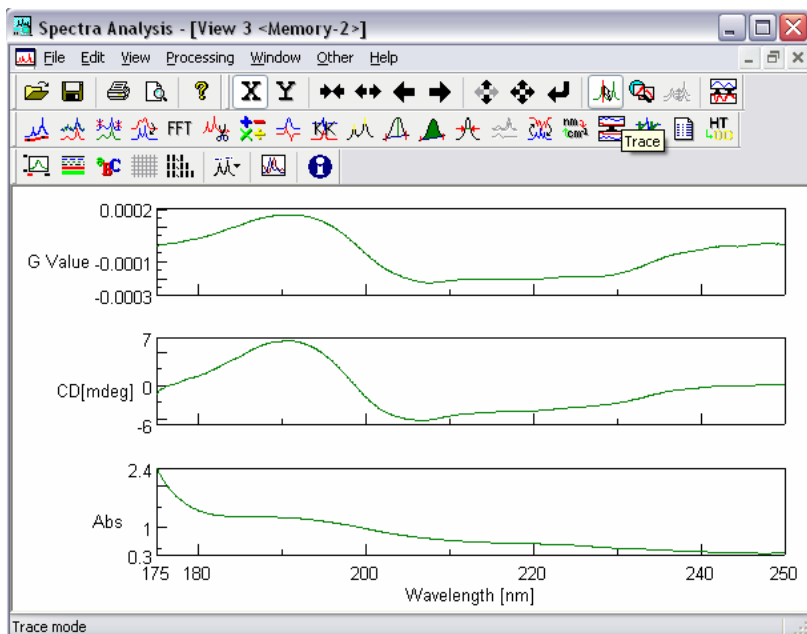

Figure 7.12 Spectrum View for G-value calculation
- (2) Click on [Processing] - [CD-Options] - [G-value...]. G-value, CD, and Abs are displayed as shown in Fig. 7.12 (see below).
*Note: Figure 7.12 is shows test data. The actual G-value is different.*